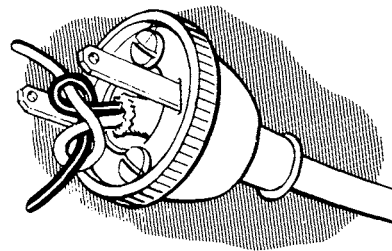

Figure 6
- 4. Extension cords or lamp cords should use underwriters' knot (Figure 6)